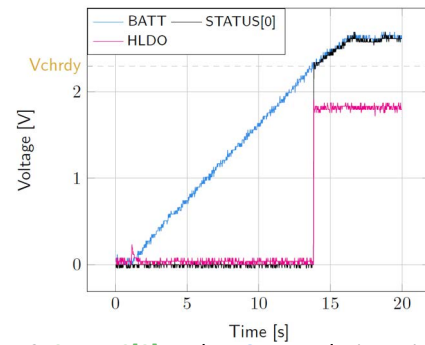

Figure 3: `STATUS[0]` and `HVOUT` evolution with `BATT`
- `BATT`: Voltage rises as the power provided by the source is transferred to the storage element (see Figure 3).
- `HVOUT/LVOUT`: Regulated when voltage on `BATT` first rises above V_{CHRDY} (see Figure 3).
- `STATUS[0]`: Asserted when the LDOs are ready to be enabled (refer to the AEM00941 datasheet “Normal Mode” section) (see Figure 3).